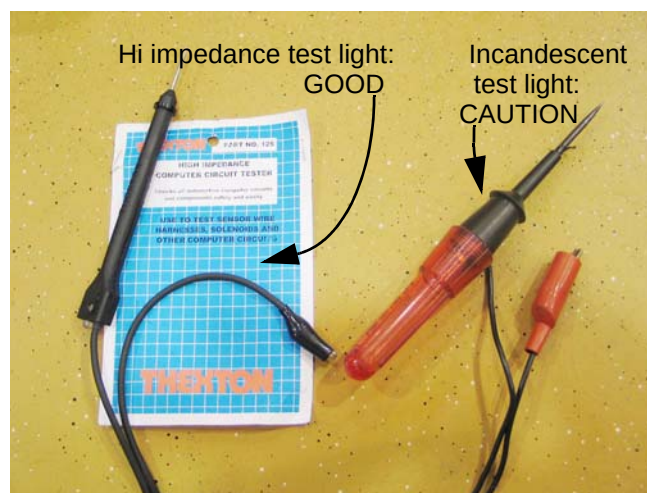

Figure 7.22
- The most basic test lights simply use the current being checked to light an incandescent lamp. These should not be used on any equipment that has or may have solid-state circuitry. The power necessary to light the bulb is more than many solid-state circuits were designed to handle. Components will be destroyed in the process of testing them. See Figure 7.22.